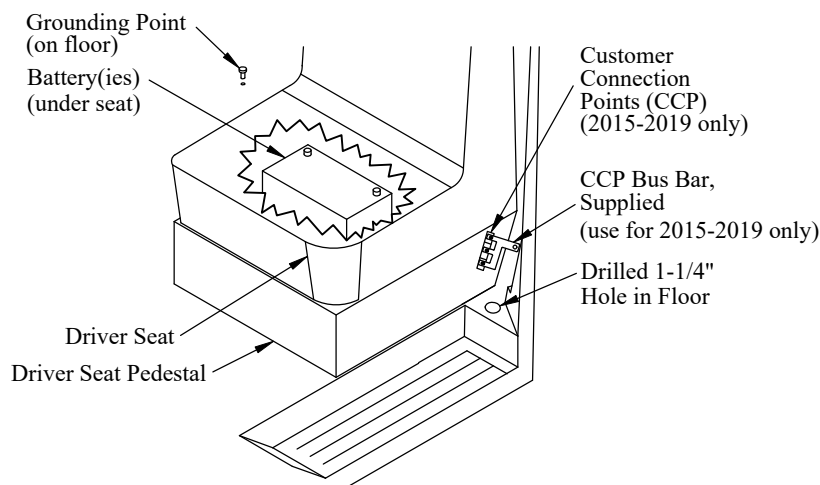

Figure 13: Power connection locations.
3. **Drill and Deburr** a 1-1/4" hole in the floor next to the driver seat in the location shown (Figure 13).
4. **Route** the power cables under the vehicle from the liftgate, along the frame, to a location under the driver door (Figure 13).
9. **Cut** the negative(-) lead to the length required to reach a vehicle ground point on the floor between the front seats (Figure 13).
11. **Connect** the negative(-) lead to a vehicle ground point on the floor between the front seats. (Figure 13).
18. **Remove** the plastic cover from the CCP on the driver seat pedestal (Figure 13).
19. **Install** the supplied bus bar on the CCP studs using three (3) supplied M5 nuts and star washers.